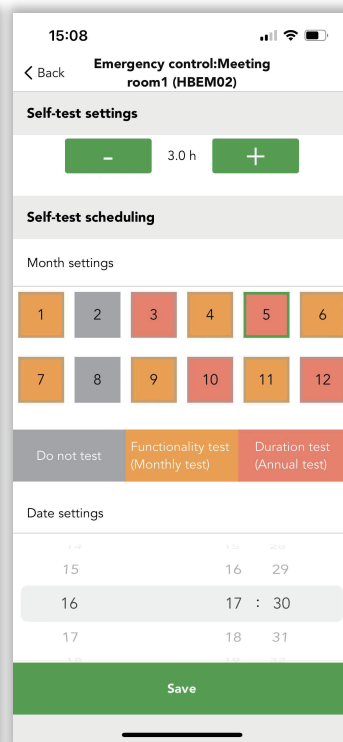

Figure 1.6 Self-test settings
4. Self-test scheduling which Koolmesh app will list out the schedule by month, user can set every month according to real application for “Do not test”, “Functionality (Monthly test)” and “Duration test (Annual test)” (see figure 1.6) Different function has different color, like “Do not test” is grey; “Functionality (Monthly test)” is orange; “Duration test (Annual test)” is red. If user would like the first month do not test, then user can click “1” and then click “Do not test”, then the first month will turn to grey color and will not do the test. User can select a certain date and hours to self-test, like date 16th 17:30.